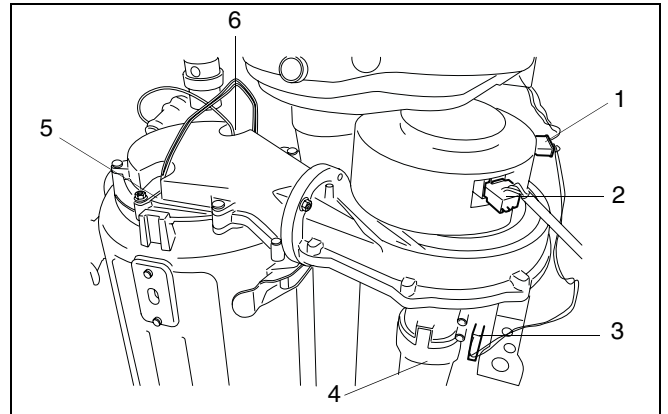

fig. 54 Remove plugs of the gas air unit
- Remove the plugs (→ fig. 54, item 1, 2 and 3) from the gas air unit.
- Remove the air suction tube from the gas air unit (→ fig. 54, item 4).
- Then remove the plugs of the ionisation electrode (→ fig. 54, item 6) and the ignition unit (→ fig. 54, item 5).